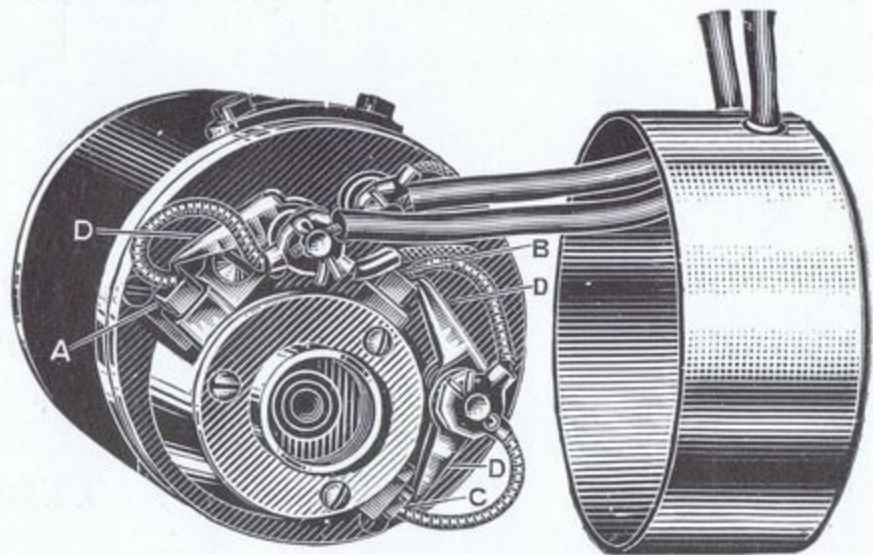

Fig 2.
1. All the brushes (A, B, C, Fig. 2) should slide quite freely in their holders.
3. Worn brushes can be easily replaced by withdrawing the split pin at the end of the spring terminal, when the eyelet on the end of the flexible brush lead can be removed. The brush tension spring (D, Fig. 2) should then be held back out of the way when the brush can be withdrawn from its holder.